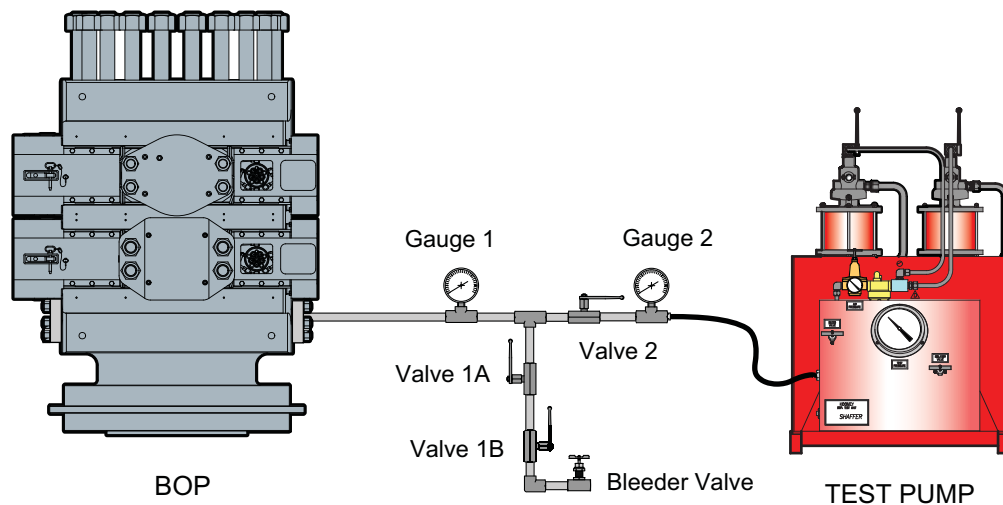

Figure 4-5. Recommended Field Wellbore Pressure Test Set-up
1. Connect the following equipment as shown in Figure 4-5:
1. Close valves 1A and 1B. Open valve 2 (see Figure 4-5 on page 4-13).